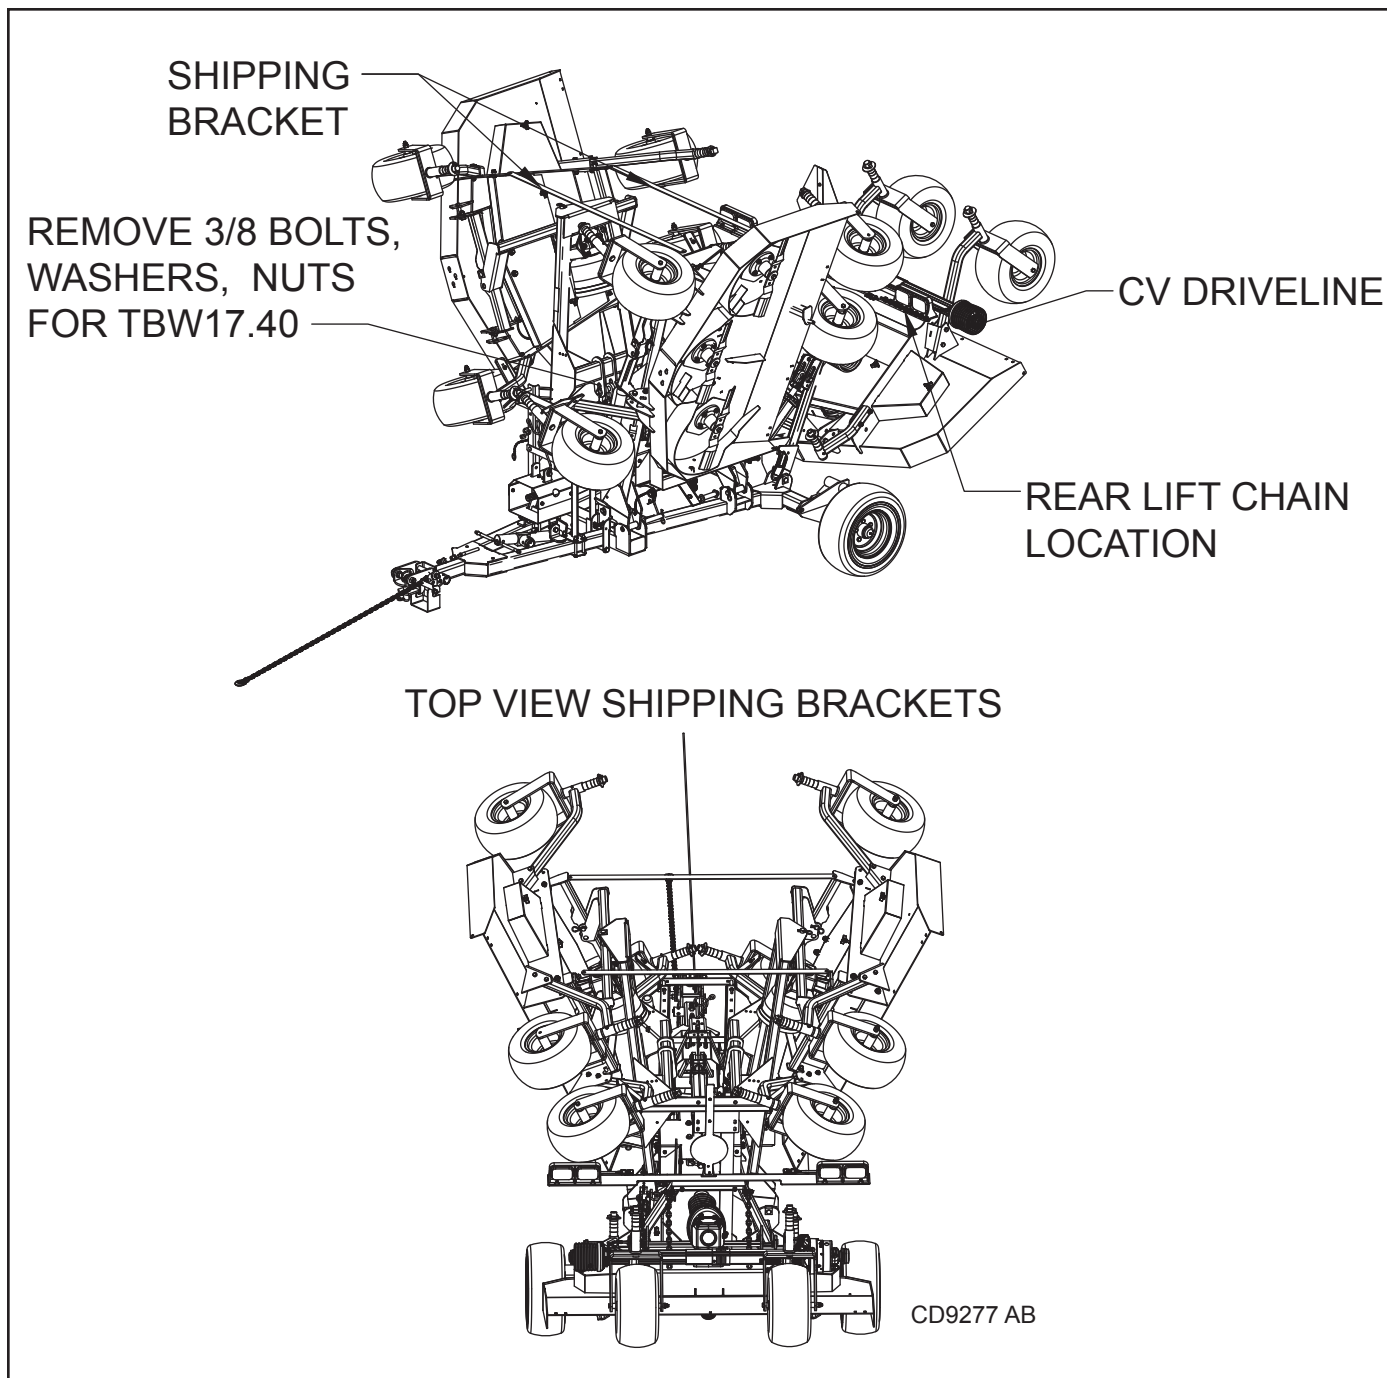

Figure 30. Remove Shipping Strap (Right Wing)
5. Remove 3/8" bolts, washers, and nuts from both rear lift chains. See Figure 30. This hardware is for factory shipping purposes only and can be discarded.
8. Remove 1/2" lock nuts and remove shipping strap from between right and left decks. Figure 30. Reinstall 1/2" lock nuts on front bolts and tighten to 85 ft-lbs.